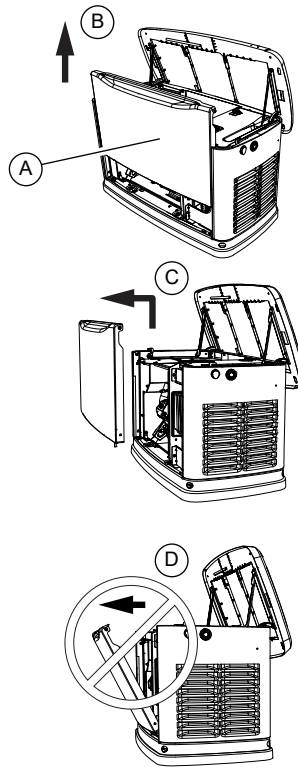

Figure 2-5. Remove Front Access Panel
See **Figure 2-5**. Remove front access panel (A) by lifting straight up and out once lid is open.